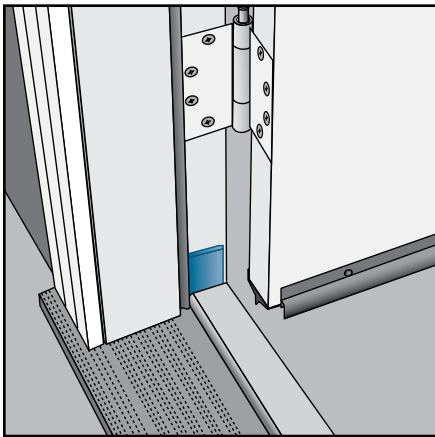

Fig. 35
8. JELD-WEN has included a set of 1-3/4" by 1-1/4" compression weatherstrip wedges. Install these at lower rabbeted corners of the jambs to help ensure a weathertight seal **(Fig. 35)**.